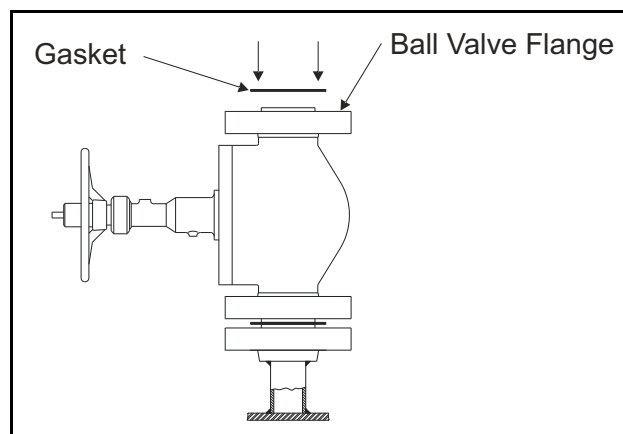

Figure 6: Placing a Gasket on the Ball Valve Flange
2. Place a new gasket on the top of the ball valve flange, as shown in *Figure 6* below.